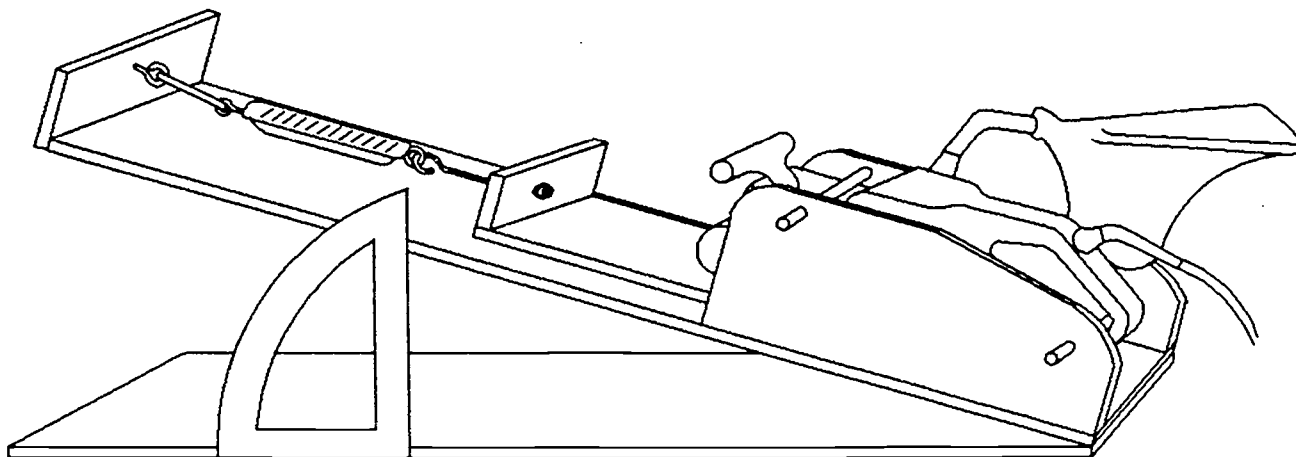

Figure M-7-1
1. Place a fine grade of sandpaper (120) on the sander.
3. Place the sander in the brace and attach the spring scale to the ramp and sanding board. Follow the setup shown in Figure M-7-1, "Belt Sander Setup."
8. Change the belt on the sander to a more coarse grade of paper (60).